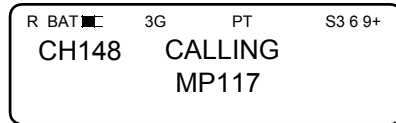
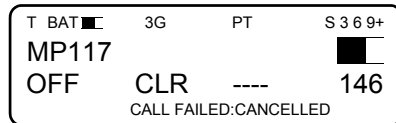

Figure 3-29. Voice Call Proceeding
Figure 3-30. Voice Call Aborted
- d. If **YES** is selected, the data transfer will be aborted and voice call will proceed. See Figure 3-29. If **NO** is selected or if the [CLR] key is pressed, the voice call will be aborted and the data transfer will continue unaffected. See Figure 3-30.